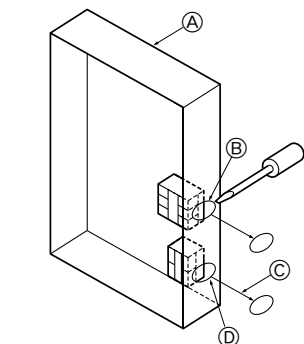

Fig. 6-2
2. Open knockout holes. (Fig. 6-2)